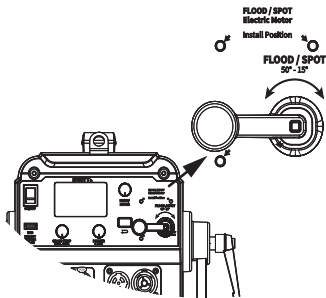

Fig. 8 Control panel (before modification)
1) Use the tool (Allen key) inside the accessory box to remove the focus handle in figure 8.;